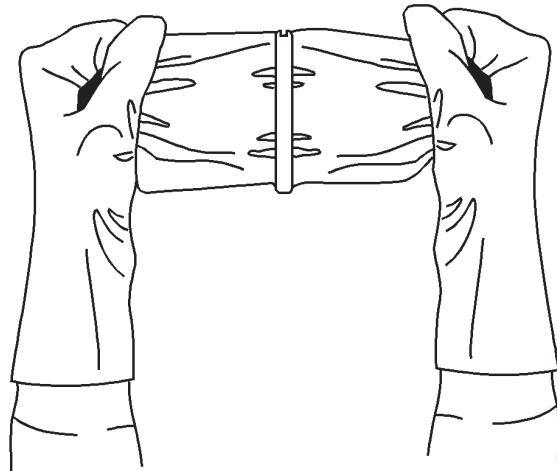

Figure 11. Q Compound, Clip Removal
9. Remove bag of “Q-compound” from foil package. Grasp the ends, one in each hand, then pull sharply to remove plastic clip [Figure 11].